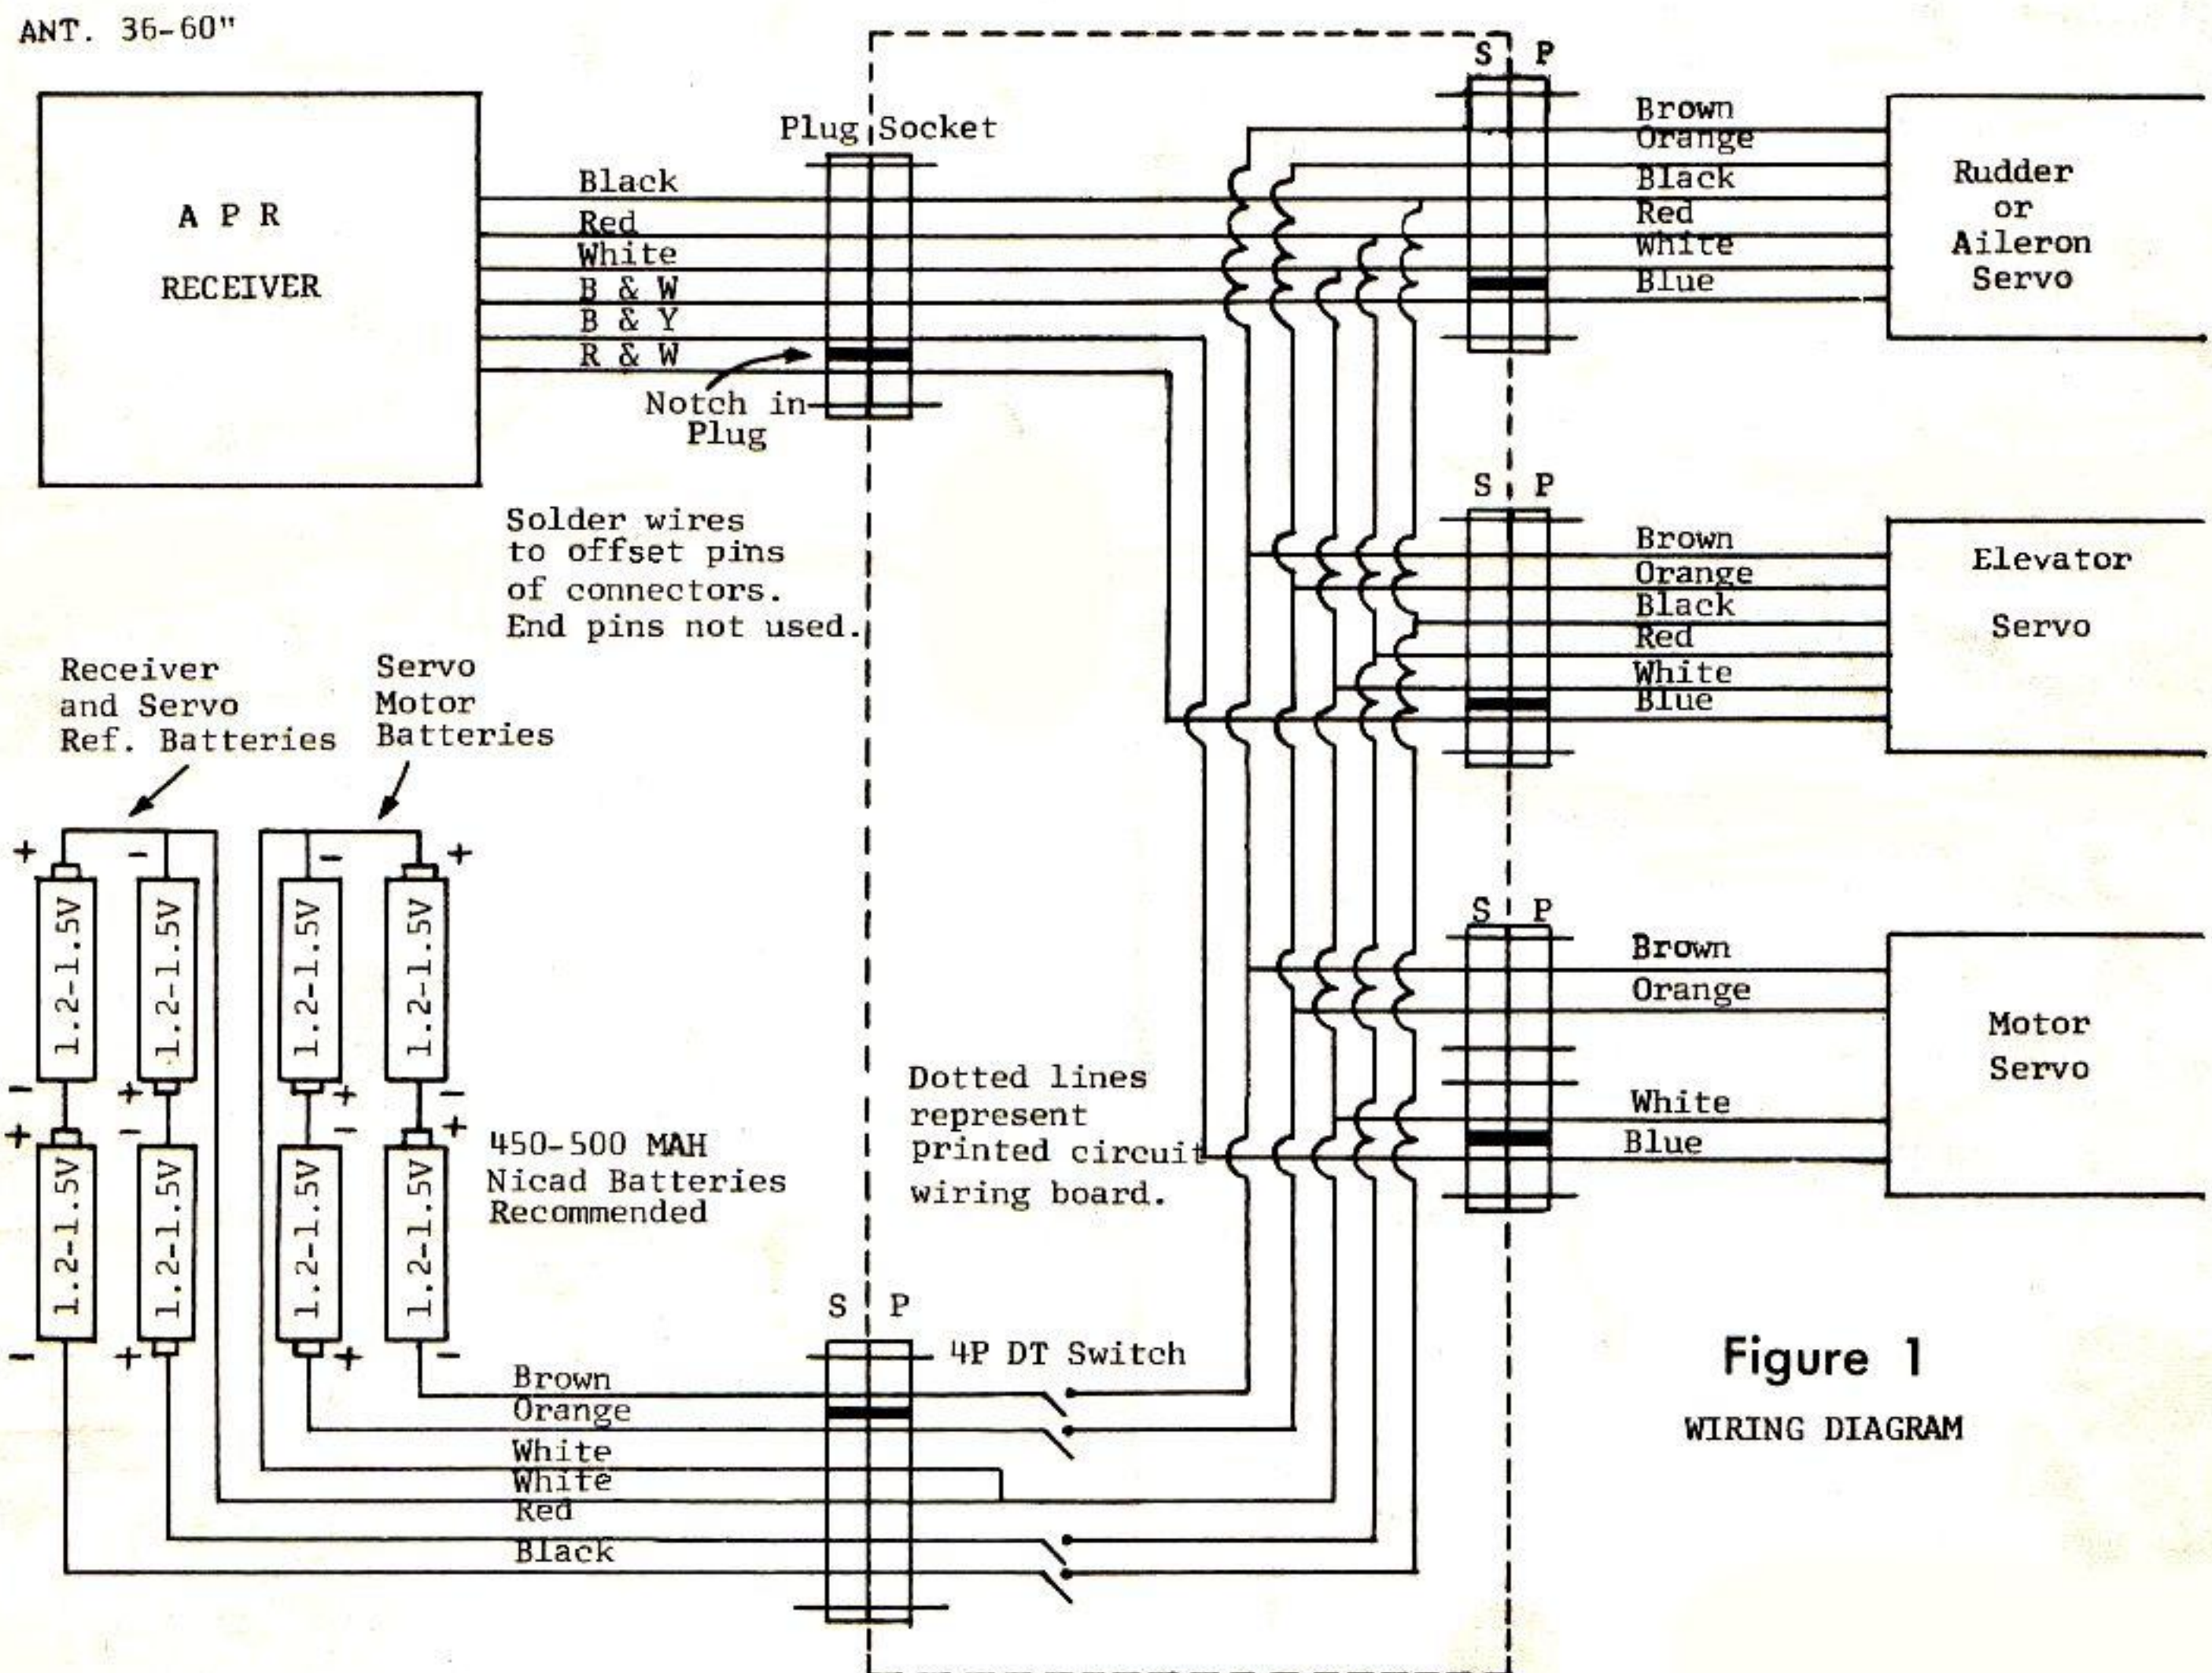

Figure 1
- Figure 1
The printed circuit wiring board for the AP System supplies all interconnecting wiring plus an Off-On switch and five Deans 2-8 connector assemblies soldered into place on the wiring board. Replacement or additional Deans connectors can be purchased from your hobby shop or from the factory. The wiring board has provision for soldering in another connector. An additional servo plugged into this connector operates in parallel with the rudder servo for coupled aileron and rudder (Car). All that remains is to solder the removable portion of each connector to each unit and to the battery pack. See Figure 1 for the color coding and follow these directions to obtain a professional soldering job.
- Be sure to get started soldering on the wires at the correct end of connector and work across in order, also remembering that the end pins are not used. (See Figure 1).